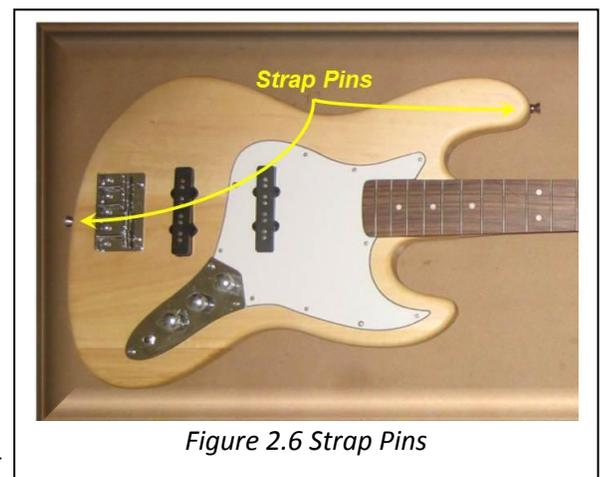

Figure 2.6 Strap Pins
1. Check for pre-drilled holes for the Strap Pins (item 9 on the material list), reference Figure 2.6.
- a. Mark the rear Strap Pin hole so that it is centered on the Neck/Bridge and the forward Pin on the most forward point on the top of the Body (see Figure 2.6).